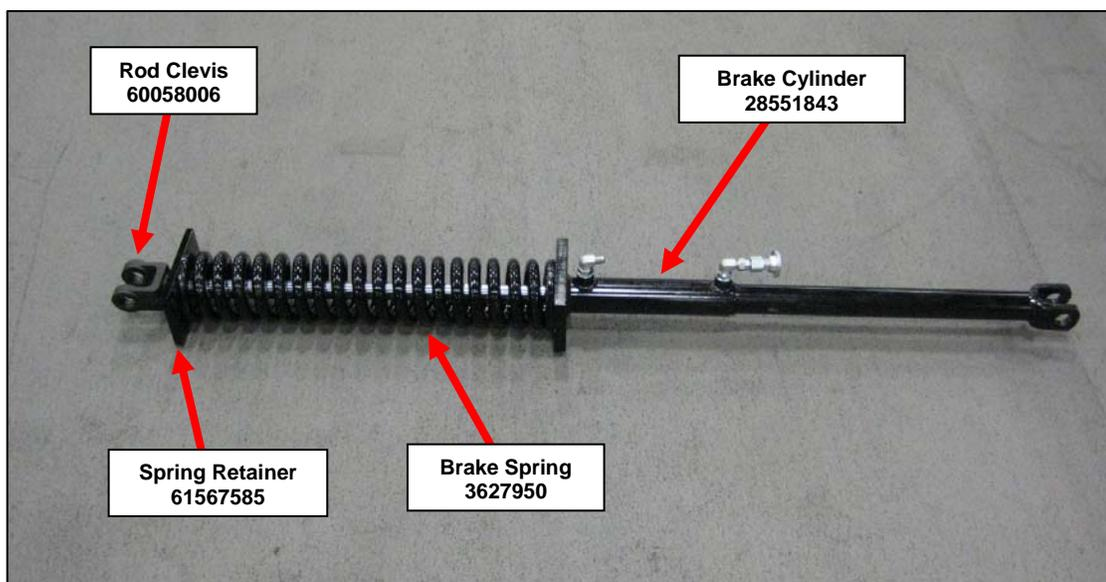

Figure 1
1. The complete Brake Cylinder Assembly must be removed from the machine. See Figure 1 on Page 2.